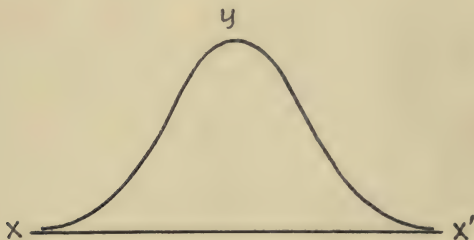

FIG. 1.
**The Probability Curve.** Referring to problem 3, page 6, it will be seen that the curve takes the form indicated in Fig. 1.
A familiar illustration is afforded by target practice. If the target is marked off into divisions, the distances of these divisions from the center may be taken to represent the magnitude of the errors. If a series of shots be fired by expert marksmen under normal conditions, they will form the basis for a curve which will resemble Fig. 1.
$c$  is negative (why?) and may be replaced for the sake of convenience by  $-2h^2$ . We may also replace  $e^{k'}$  by  $k$ . Then  $y = ke^{-h^2x^2}$ , which is the equation of the probability curve. It is similar in form to the equation suggested to express the curve in Fig. 1.